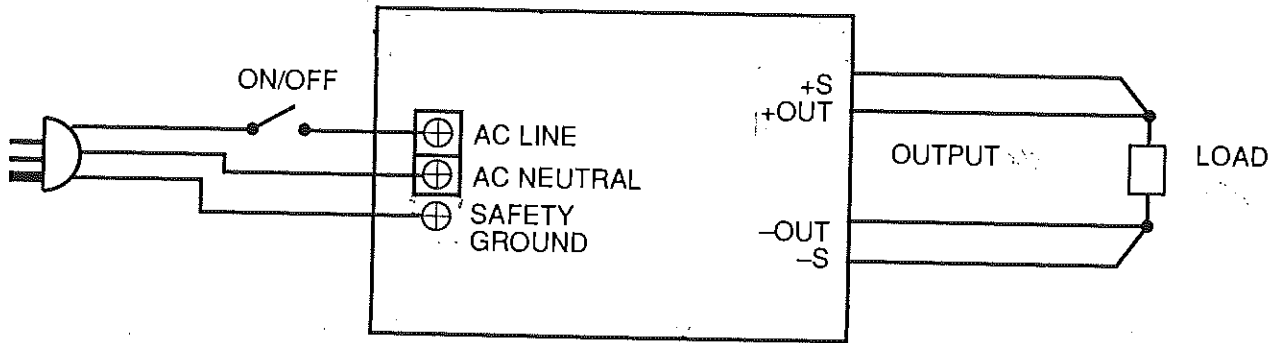

Figure 9. Input and Output Connections
- 14.1 Connect the AC power cord to the AC input barrier terminal strip. See Fig. 5. Be sure to use a three-wire connection to the proper terminals including the safety connection. Do not plug in the AC power cord yet. See Fig. 9.